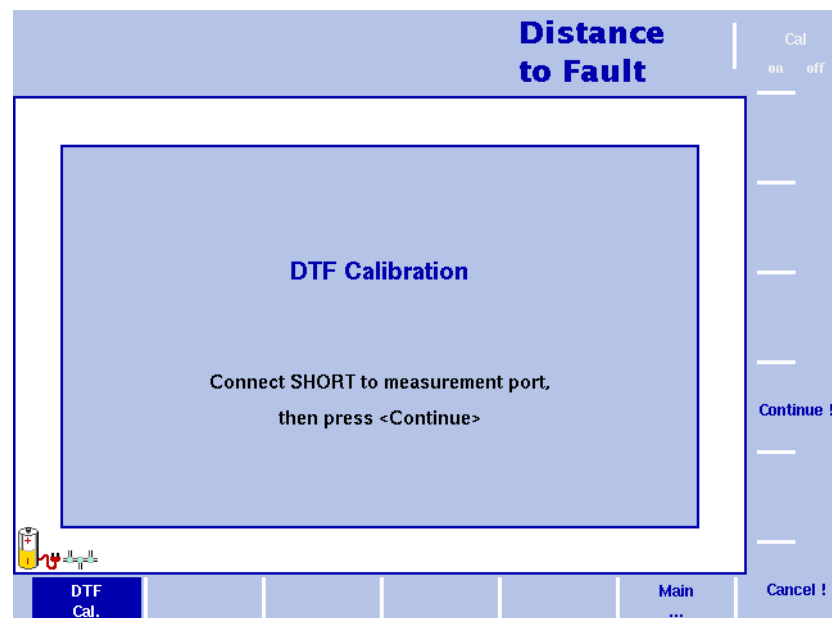

Figure 10 DTF Calibration menu
- 3 The 9102 will guide you through the calibration process by onscreen messages as shown in Figure 10. When prompted as shown connect the calibration set to the test port extension cable and press **Continue**. You can abort the calibration process by pressing the **Cancel !** softkey.